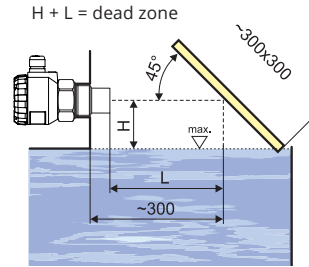

Fig. 15: Reflection board
- To lower the minimum distance to the measured medium, a **reflection board** made from solid, even and smooth material can be installed to the level meter. Then the tank can be filled nearly up to the maximum height. The solution is suitable for open tanks and reservoirs (Fig. 15).